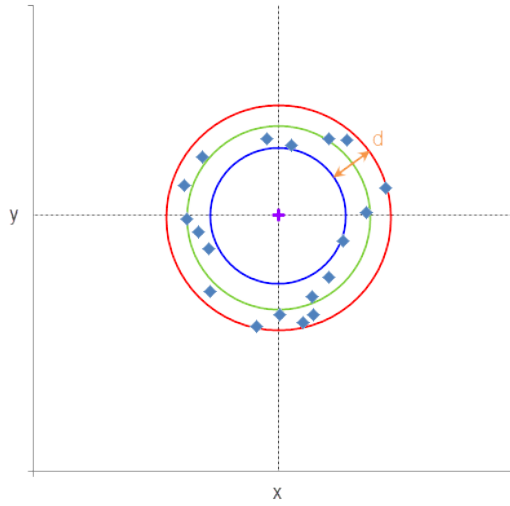

Figure 14.12: Minimum Zone Fitting of a 2D Circle. Note: the fitted circle is the green circle
The following Figure 14.12 illustrates the Minimum Zone criterion for a 2D Circle, with the same point cloud used in the *Least Square Method (LS)*:
The *Minimum Zone Inner* method is based on the *Chebyshev* algorithm. This method can be used to fit the same geometries as the *Least Square Method (LS)*. It follows the same algorithm as the *Minimum Zone Method (MZ)*. The only difference is that instead of taking the mean geometry, we take the minimum one (i.e., the blue circle in Figure 14.12).
The *Minimum Zone Outer* method is based on the *Chebyshev* algorithm. This method can be used to fit the same geometries as the *Least Square Method (LS)*. It follows the same algorithm as the *Minimum Zone Method (MZ)*. The only difference is that instead of taking the mean geometry, we take the maximum one (i.e., the red circle in Figure 14.12).
14.3.4.5 Maximum Inscribed (MI)